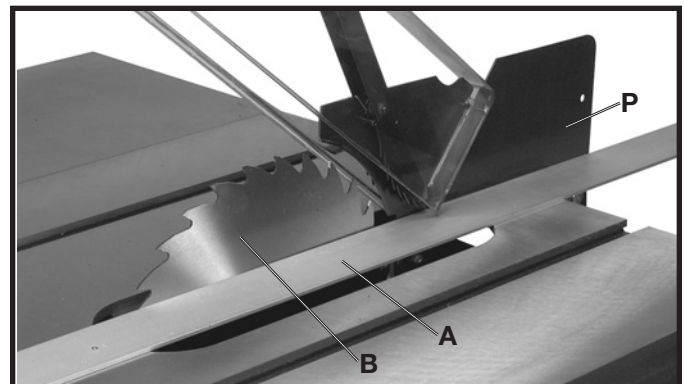

Fig. 27
12. Using a straight edge (A) Fig. 27, make certain the